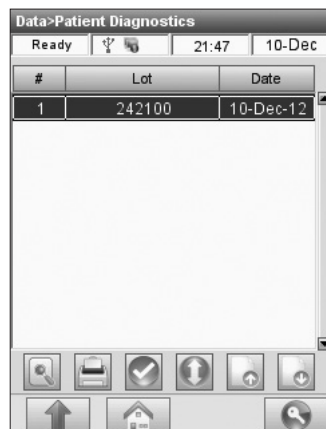
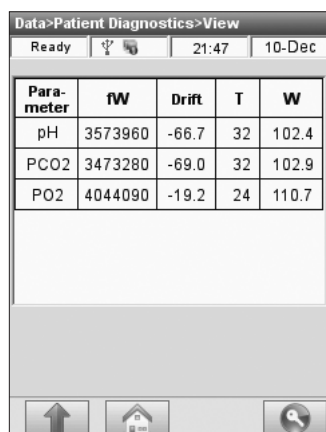

Fig. 6-16 Select Measurement
Fig. 6-17 Patient Diagnostics
3. In the **<Data - Patient Diagnostics>** screen (Fig. 6-16), select the desired measurement and press the **<View>** button  to display the measurement results (Fig. 6-17).
5. To print individual results, highlight the desired measurement (Fig. 6-16).